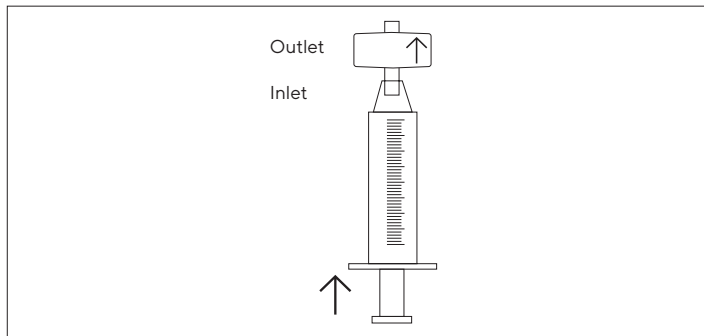

Fig. 7: Filling the Sartobind® Nano with a Luer syringe for air removal
- ▶ Fill a 10–20 mL Luer syringe with equilibration buffer and connect to the capsule. Hold capsule upright (outlet is up) and expel air as shown in Fig. 7.